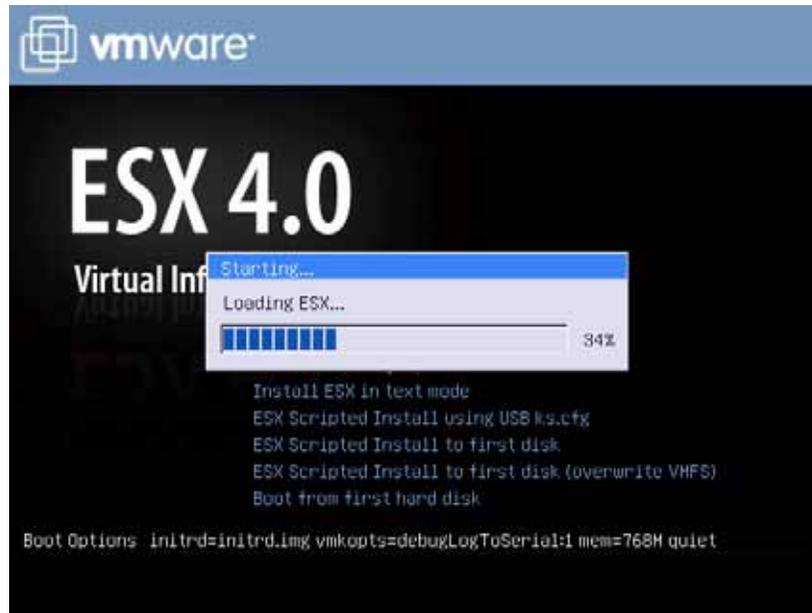

Figure 15 ESX 4.1 Installer — Loading
Step 6 Backspace over the *mem=* argument and overwrite the default kernel memory with the recommended minimum amount of memory. By default, 1024 MB of memory is used, but you can set the value higher if desired), then press *Enter* to resume the installer, as shown in Figure 15 on page 46.